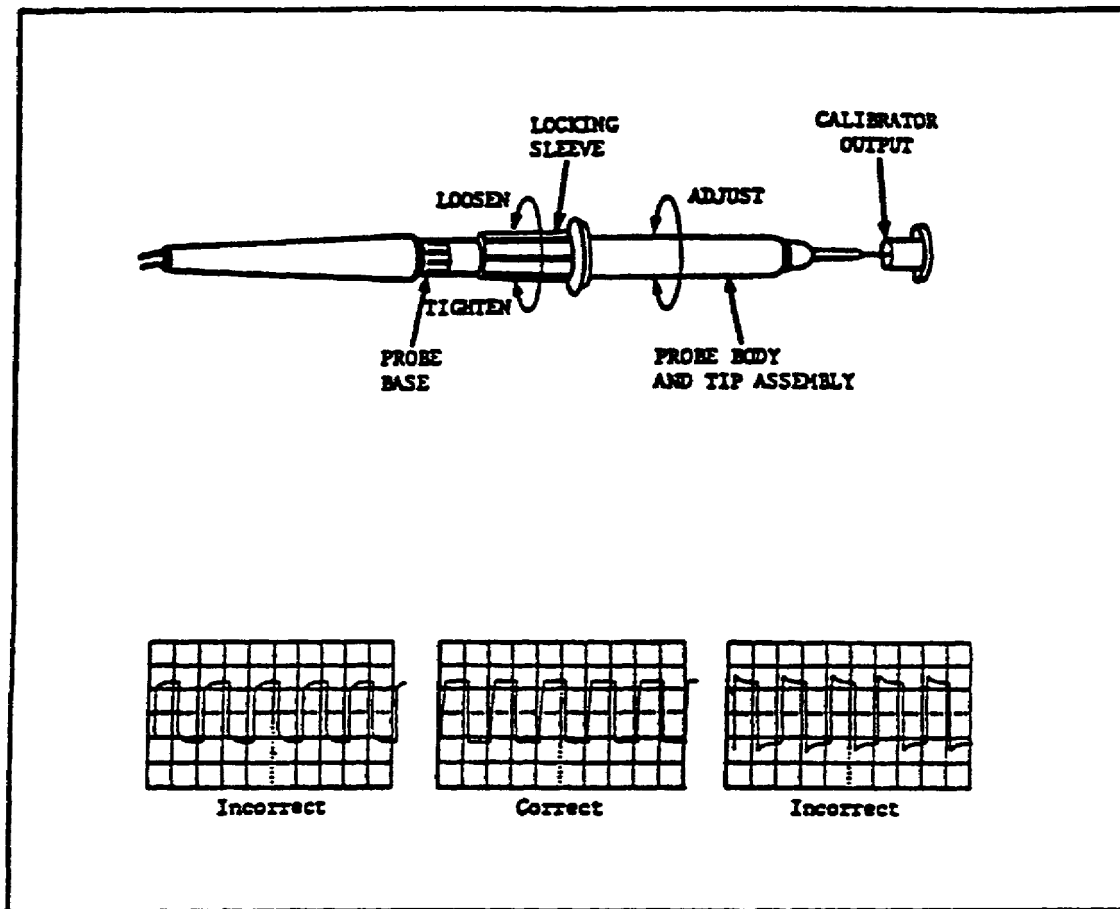

FIGURE 16. PROBE ADJUSTMENT AND WAVEFORMS.
Step 2. Loosen the locking sleeve and turn the probe body tip assembly until the correct waveform is displayed on the screen (figure 16, on the next page).